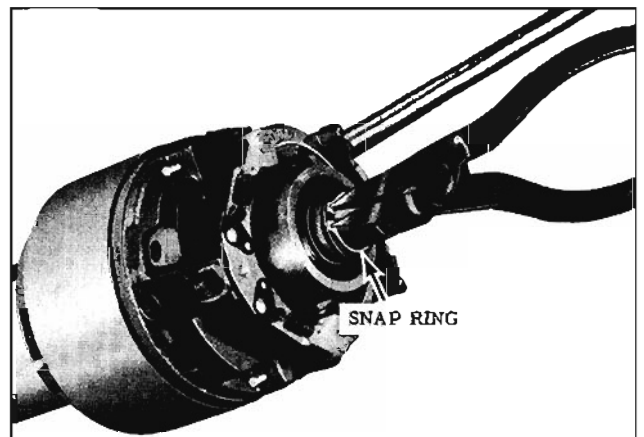

Fig. 8-95 Removing Upper Shaft Retaining Ring
4. Remove the upper shaft snap ring. (Fig. 8-95)